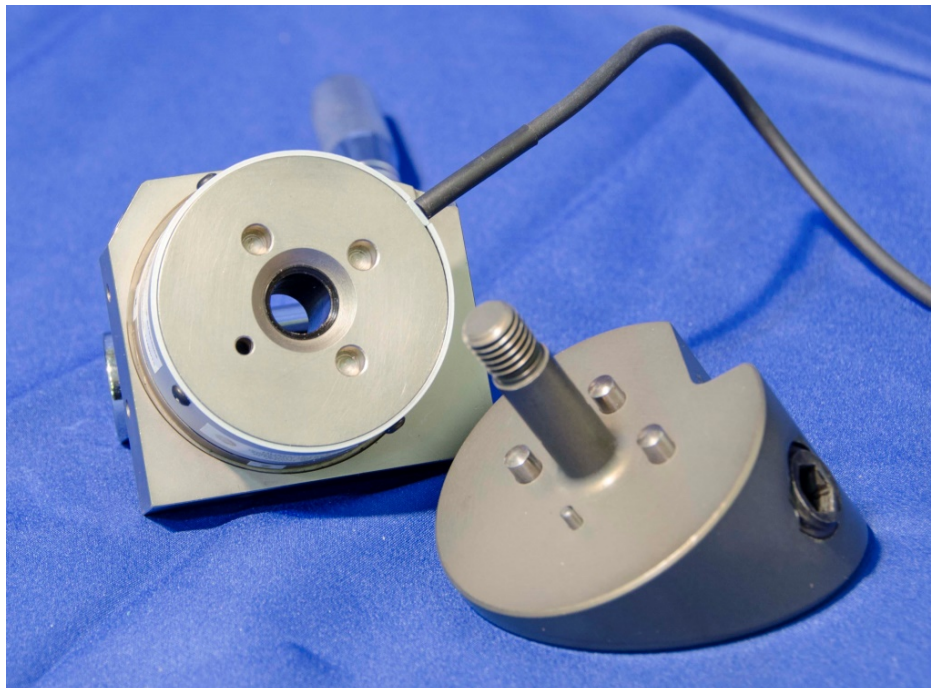

Figure 10-6. Insert pelvic socket adaptor into acetabulum load cell aligning pins
- 10.2.2.2 Insert the shaft of the Left Pelvic Socket Adaptor (472-4321-1) into the left acetabulum load cell. Figure 10-6 indicates the orientations of the pelvic socket adaptor and the load cell. Align the dowel pin holes of the load cell with the dowel pins in the socket adaptor.